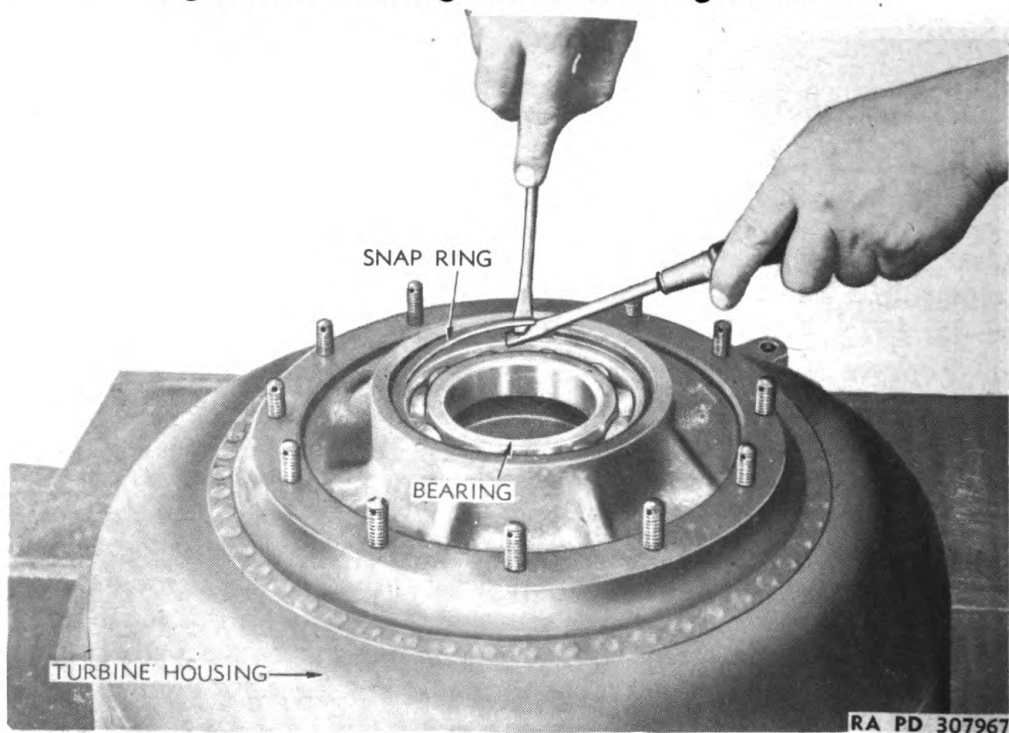

Figure 160 — Removing Bearing Snap Ring
d. Remove Bearing and Seals From Turbine Housing. Again place the output half of the converter housing so that it rests on the 24 studs. Pry out the snap ring which holds the bearing in place (fig. 160), then turn the housing over and drive out, or press out, the bearing. The ground joint seal and lip seal may be driven out in similar fashion. Normally these seals will not be removed except to replace them when they fail to function properly, but if it is intended that these same seals are to be used again, the driving out must be very carefully done so they will not be damaged. A flat tool, with the end bent to form an "L" projecting approximately $\frac{1}{4}$ inch, is handy for this purpose.